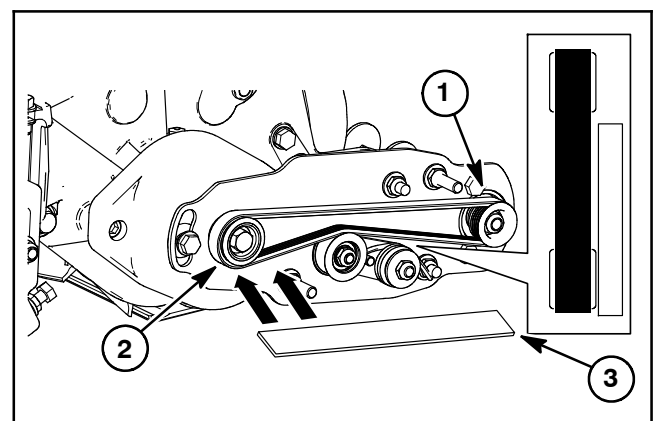

Figure 51
3. After assembly (including drive belt installation), check alignment of pulleys with a straight edge placed along the outer face of the drive pulley (Fig. 51).